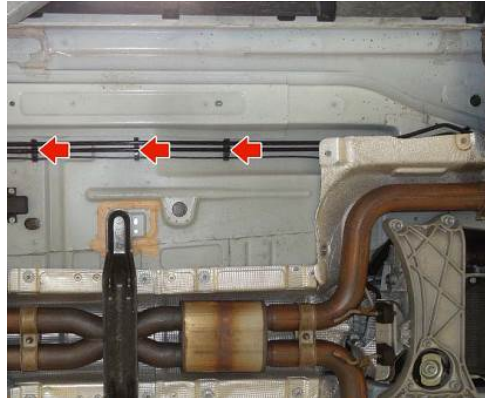

Fig.23
19. Unclip the fuel delivery line from the 3 fastening clamps. (Fig.23)